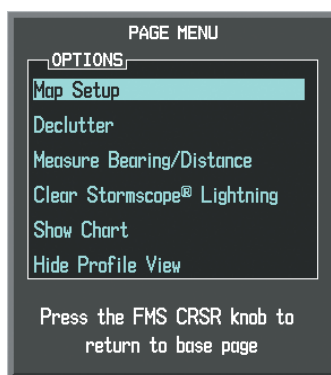

Figure 6-55 Navigation Map Page Menu
- 2) With 'Map Setup' selected (Figure 6-55), press the **ENT** Key.